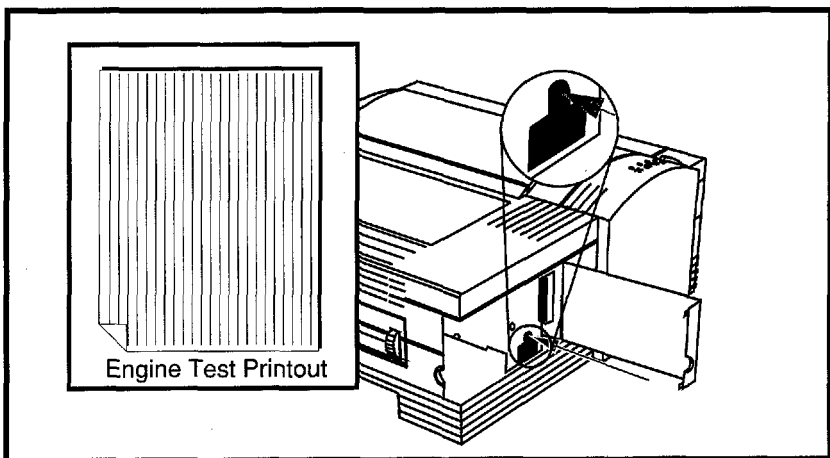

Figure 7-4 Engine Test Button and Printout, LaserJet 4L/4ML
On the LaserJet 4L/4ML, the engine test button is accessible **without removing the covers**, through the I/O Door area on the left side of the printer. To print an engine test, use a long object (such as a pencil) to press the engine test button (see Figure 7-4). **(Do not use a metal object.)** A single test page is printed.
7. Exert downward pressure on the the toner cartridge (through the light-blocking paper) while pressing the Engine Test button SW301 . Use a pencil or other non-metallic object to reach through the access hole in the Gear Train plate (similar to that shown in Figure 7-4).